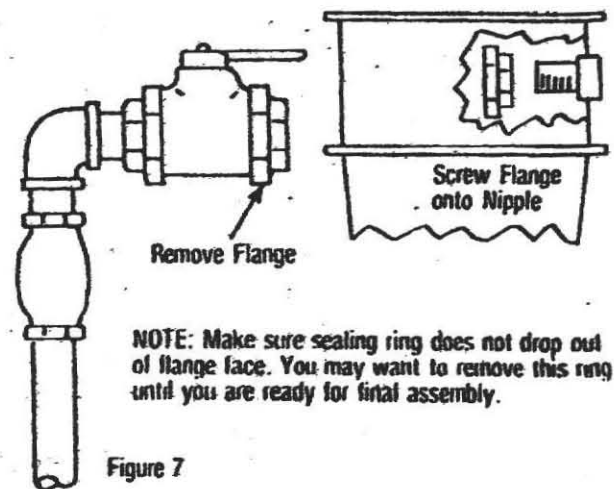

Figure 7
- A. Remove threaded flanged end from valve assembly. Be careful not to drop square sealing ring out of flange. Screw threaded end of flange onto discharge pipe nipple. (See Fig. 7).